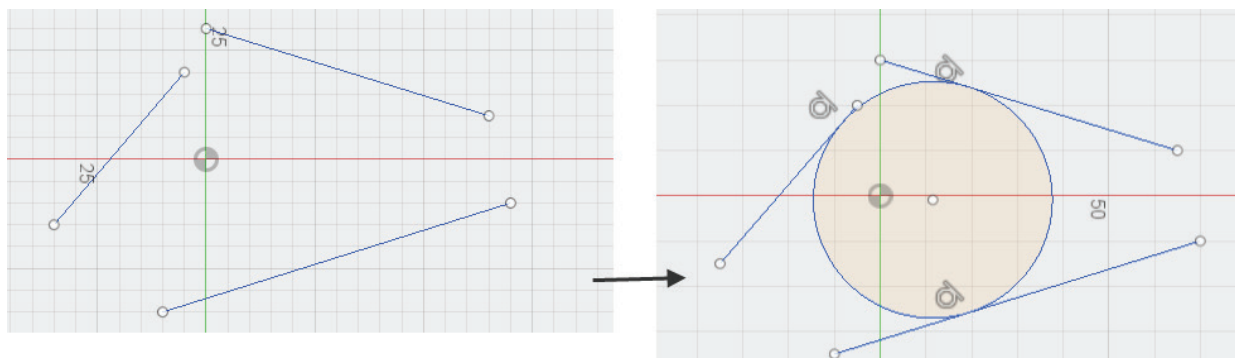

Figure-16. Creation of 3-tangent circle
- Select three lines to be tangent to the circle. You can use perform window selection to select the lines; refer to Figure-16.